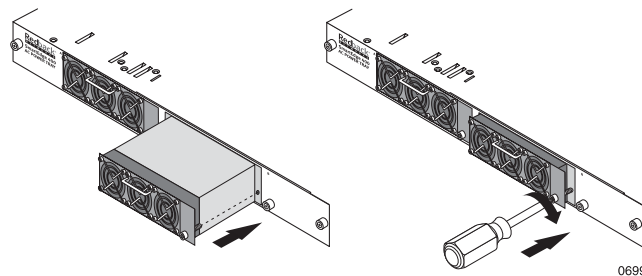

Figure 38 Installing an AC Power Supply
3. Insert the AC power supply into the empty slot in the AC power tray until the captive bolt can engage the AC power tray; see Figure 38.
4. Install the new AC power supply; see Figure 38